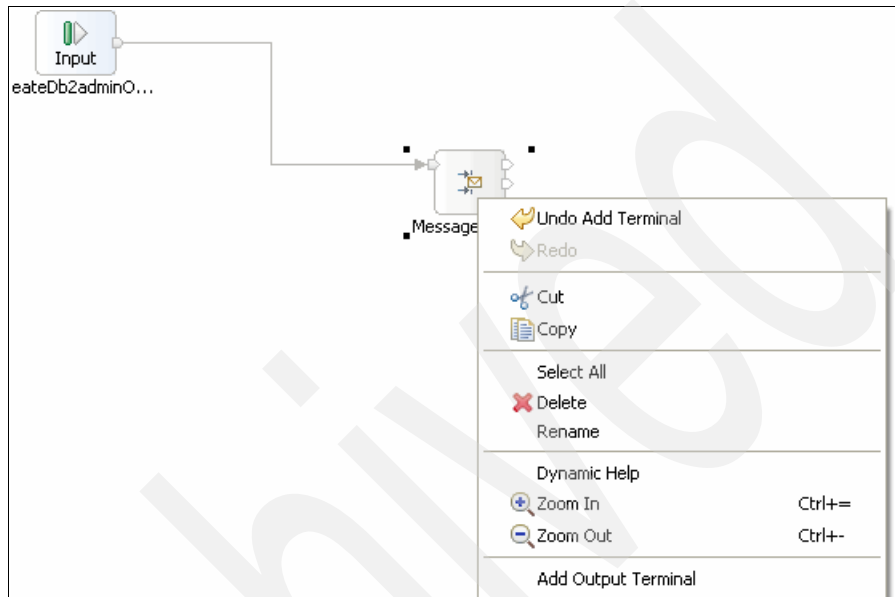

Figure 6-79 Selecting Add Output Terminal
2. Right-click the **Message Filter** primitive and select **Add Output Terminal** (Figure 6-79). An output terminal and an error terminal are created by default. The bulk of the inputs received by the Message Filter is routed to the default output terminal. We must create an additional output terminal for the rest of the input that meets the conditions specified in the Message Filter primitive.